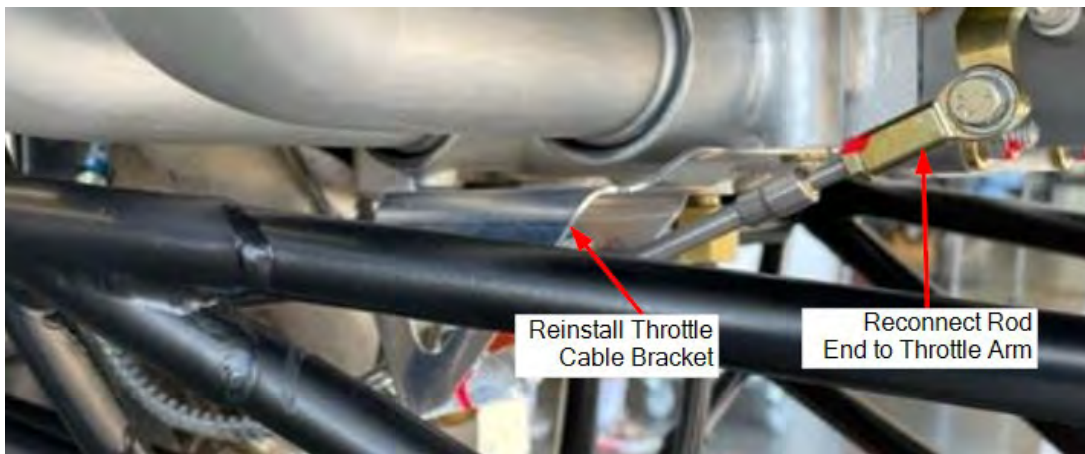
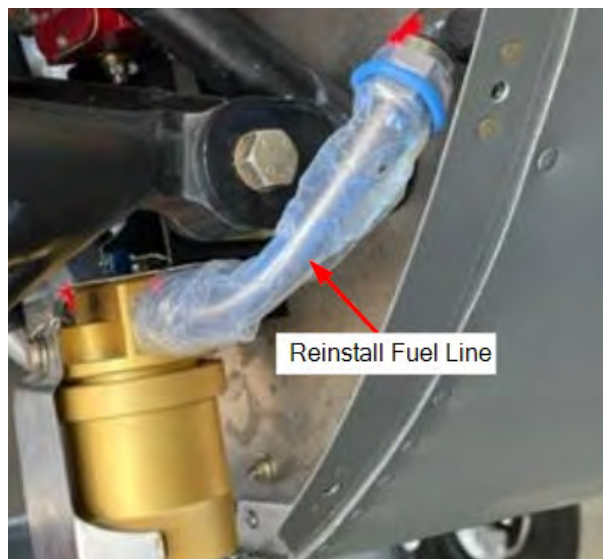

Figure 16 – Reinstall Throttle Cable Bracket
Figure 17 – Reinstall Fuel Line
29. Reinstall the throttle cable bracket onto the engine sump and connect the rod end to the throttle arm (see Figure 16). Also, reinstall the section of fuel line between the firewall and gascolator (see Figure 17).